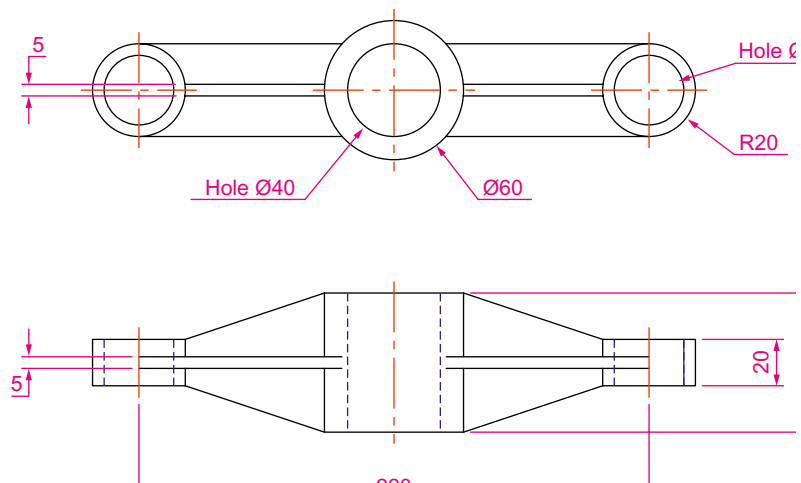

Fig. 14.21 First example – **Slice** – the two-view drawing
1. Construct a 3D model of the rod link device shown in the two-view projection (Fig. 14.21) on a layer colour green.